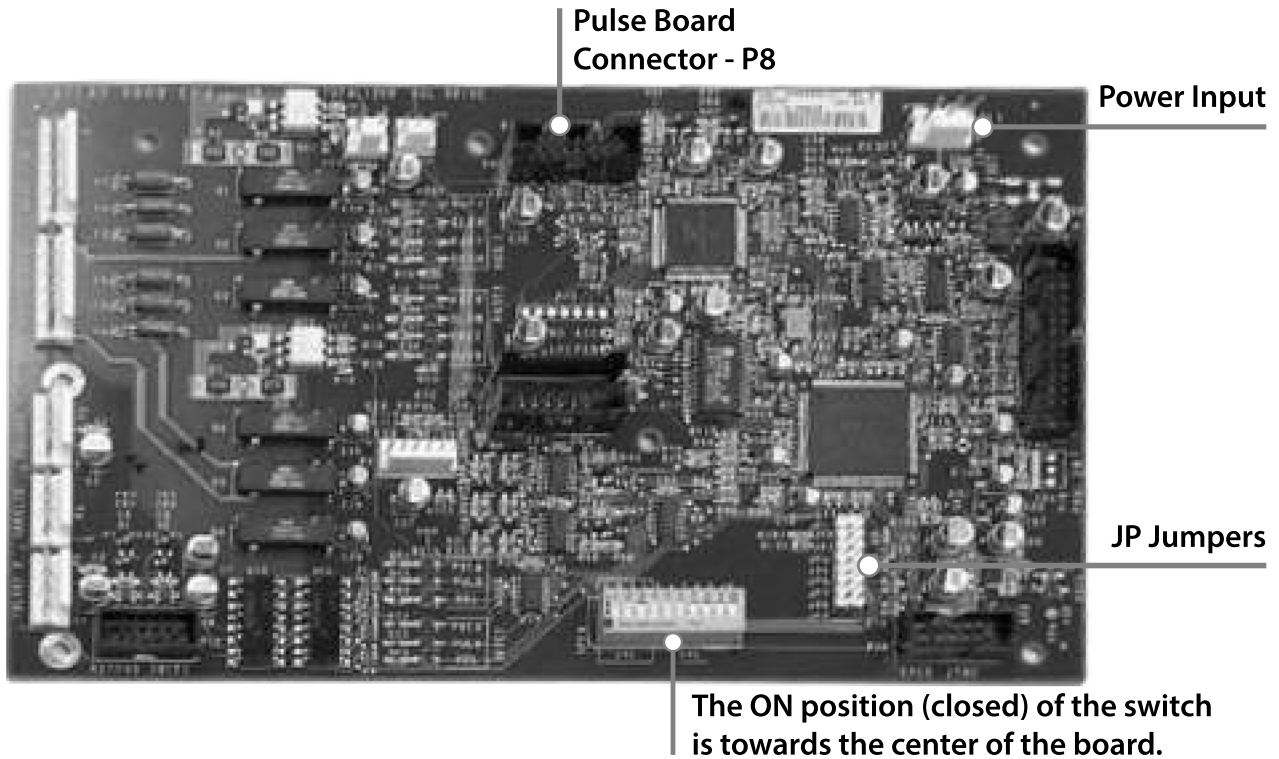

Figure 30. New Atlas 9800 CPU With 10-Position DIP Switch
**NOTE: Older Atlas CPU boards have two DIP switches instead of the 10 position DIP switch as shown in Figure 30:**